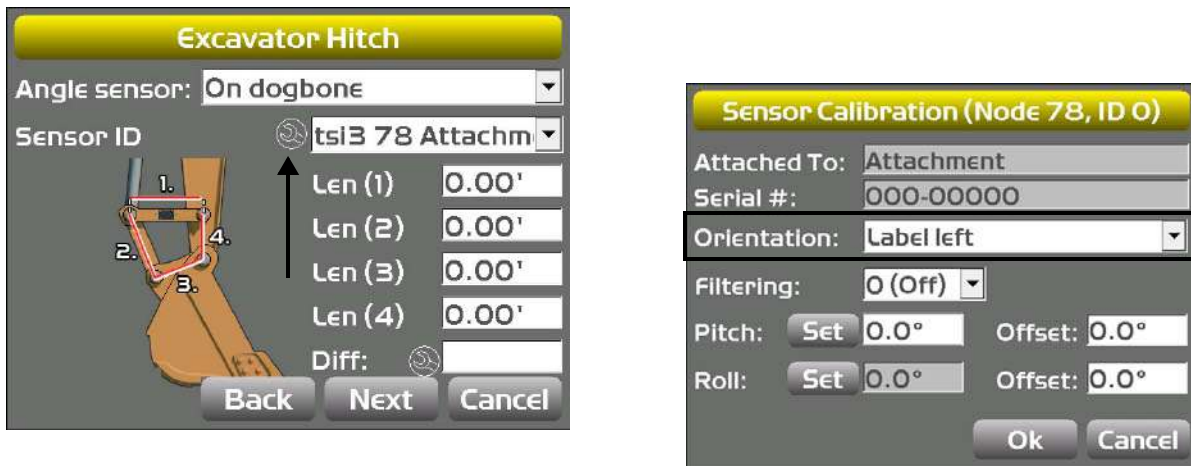

Figure 68: Check Sensor Mounted on DogBone.
1. Tap the **Wrench**  icon that corresponds to the DogBone sensor (Figure 68).
2. Select the correct orientation from the drop-down menu (Figure 68).